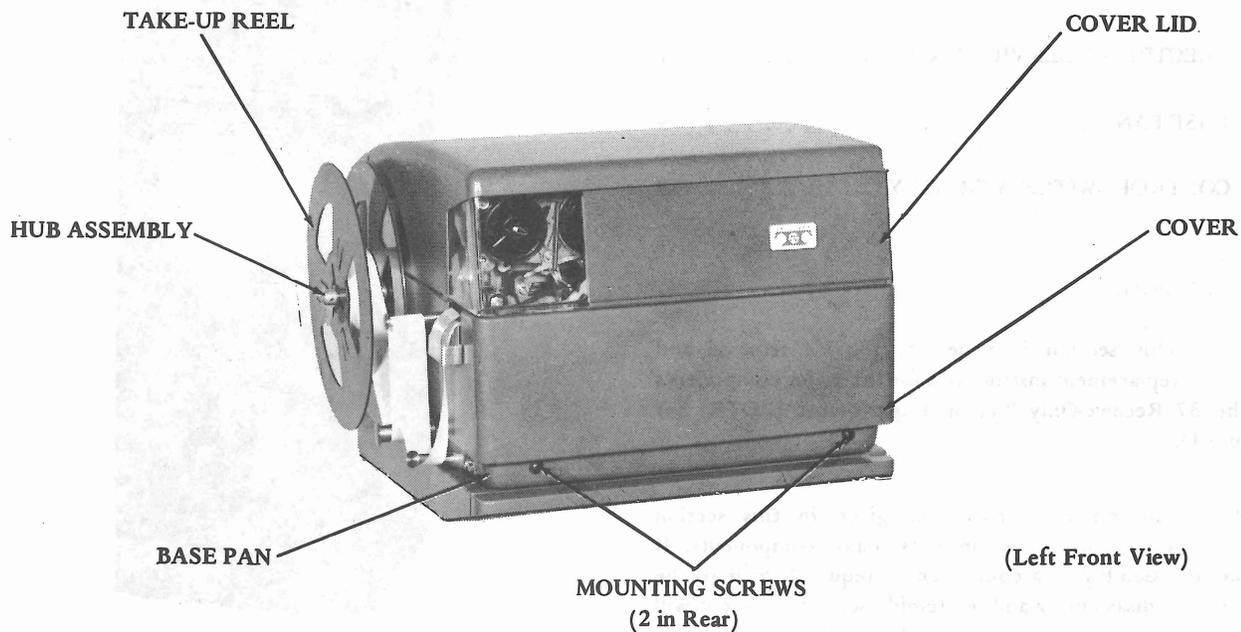

Figure 2 - 37 ROTR With Cover
2.01 To remove the cover from the base pan (Figure 2 and 3), proceed as follows.